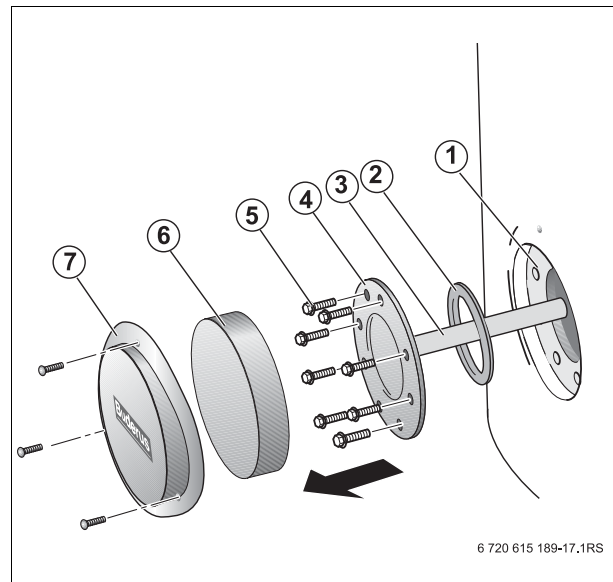

Fig. 19 Removal of inspection opening
- Disassemble clean out cover (→ Fig. 19, page 23) if not done already.